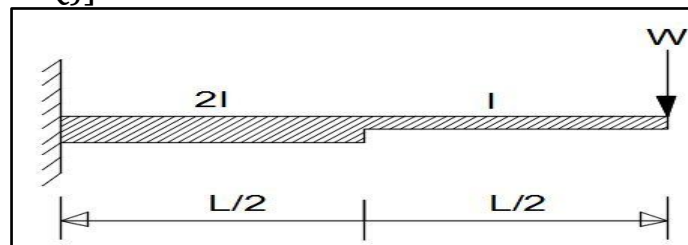

Fig.6
8. A beam of span L carries a point load as shown in Fig. 6. The moment of inertia (I) of the beam varies as shown. Evaluate slope and deflection at the free end and at the midpoint. Use conjugate beam method. Assume material to be uniform throughout. [(CO4) (Evaluation/HOCQ)]